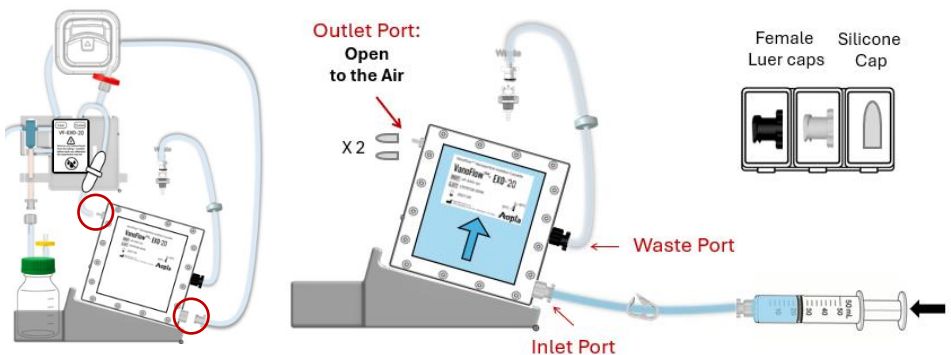

Figure 2 - Cassette storage for future use
- If planning to reuse the cassette, disconnect only the tubing indicated by **Red Circles** in Figure 2(left) and keep the other tubing connected.
- Using a **50mL syringe**, slowly inject **~40ml storage buffer** (0.05M HCl) into the cassette as shown in Figure 2(right). When the buffer reaches the Outlet Port, cap the **Outlet Ports** (x2) with silicone caps (x2).